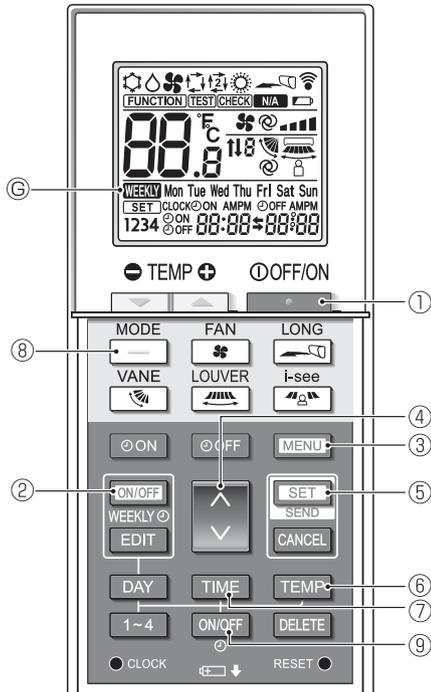
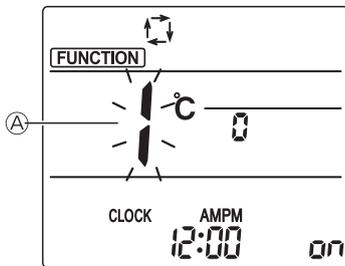
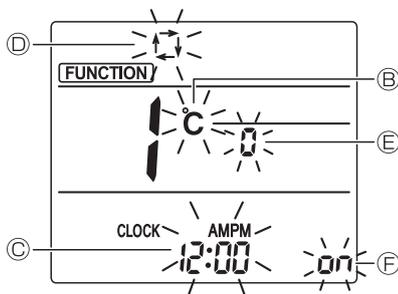

Fig. 3-1
Fig. 3-2
Fig. 3-3
1. Switching to the initial setting mode (Fig. 3-1, Fig. 3-2)
- Press the **STOP** button ① to stop the air conditioner.
- If the weekly timer is enabled, press the **ON/OFF WEEKLY** button ② to disable the timer. (**WEEKLY** ③ disappears.)
- Press the **MENU** button ③.
- The Function setting screen will be displayed and the function No. (A) will blink.
- Press the **DOWN** button ④ to change the function No.
- Check that function No. "1" is displayed, and then press the **SET** button ⑤.
2. Changing the temperature unit (Fig. 3-1, Fig. 3-3 (B))
- Press the **TEMP** button ⑥.
- Pressing the **TEMP** button ⑥ changes the temperature unit (°C / °F). (The factory setting is "°C".)
3. Changing the time display (Fig. 3-1, Fig.3-3 (C))
- Press the **TIME** button ⑦.
- Pressing the **TIME** button ⑦ changes the time display (^{AMPM} 12:00 / 24:00). (The factory setting is "12-hour format".)
4. Changing the AUTO mode (Fig. 3-1, Fig.3-3 (D))
- Press the **AUTO** button ⑧.
- Pressing the **AUTO** button ⑧ changes the Auto mode ( / ). (The factory setting is "Single set point".)
5. Changing the pair No. (Fig. 3-1, Fig.3-3 (E))